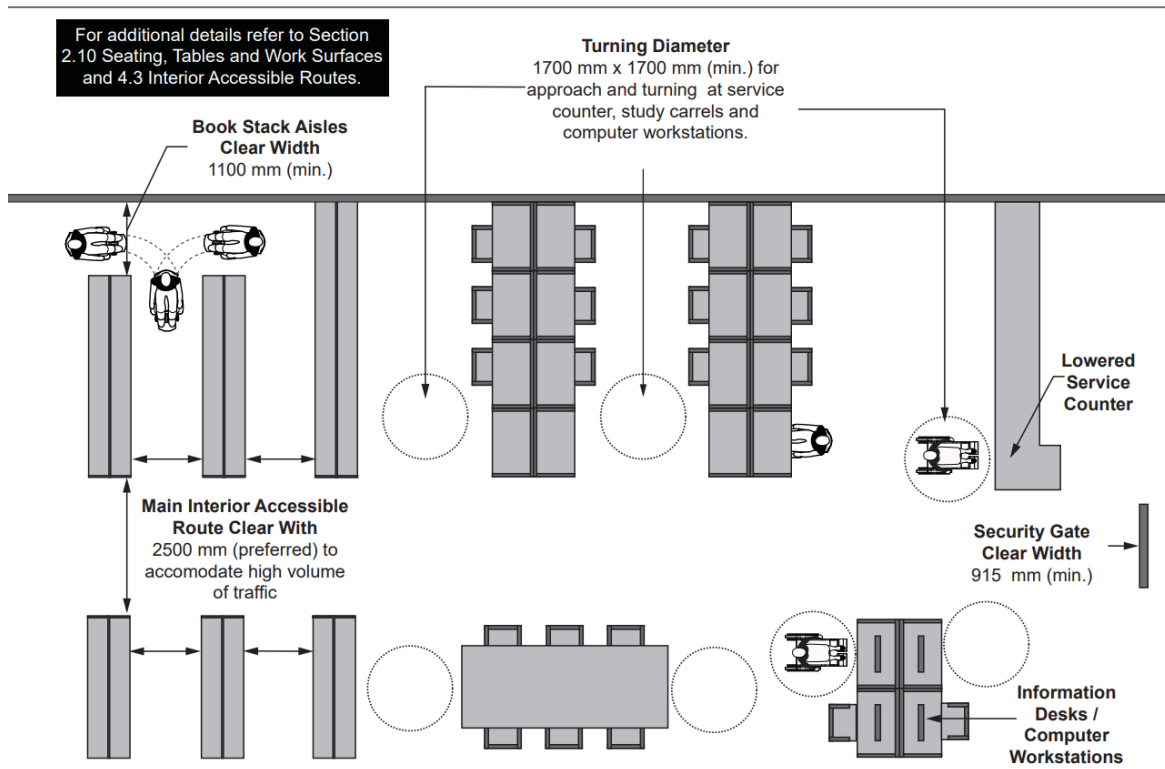

Figure 163: Library Design and Layout - Plan View
- Ensure there is adequate space at the end of aisles (See Figure 163 for an illustration of the aisle width for book stacks)